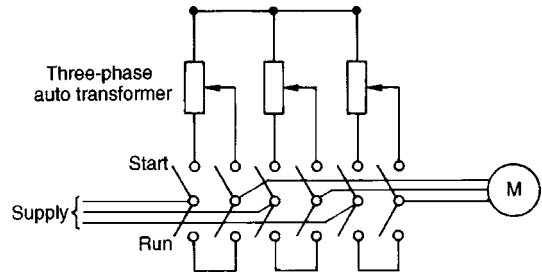

Figure 23.11
With this method, an auto transformer is used to reduce the stator voltage, E_1 , and thus the starting current (see Equation (7)). However, the starting torque is seriously reduced (see Equation (12)), so the voltage is reduced only sufficiently to give the required reduction of the starting current. A typical arrangement is shown in Fig. 23.11. A double-throw switch connects the auto transformer in circuit for starting, and when the motor is up